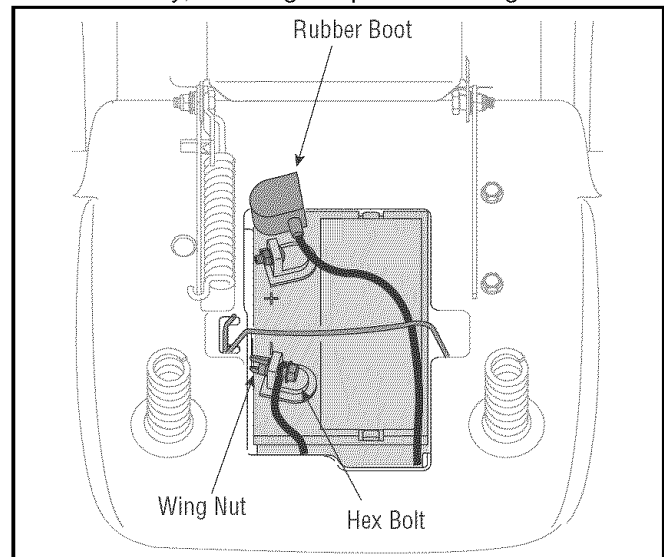

Figure 4
- Make certain the hold-down strap is in position over the battery, securing it in place. See Figure 4.